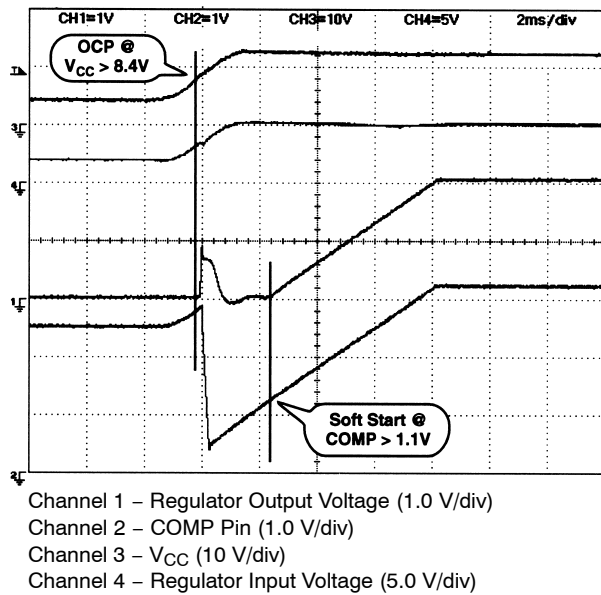

Figure 13. Startup with COMP Pre-Charge to 2.0 V
If the voltage across the Current Sense resistor generates a voltage difference between the V_{FB} and V_{OUT} pins that exceeds the OVC Comparator Offset Voltage (86 mV typical), the Fault latch is set. This causes the COMP pin to be quickly discharged, turning off GATE(H) and the upper NFET since the voltage on the COMP pin is now less than the 1.1 V PWM comparator offset. The Fault latch is reset when the voltage on the COMP decreases below the discharge threshold voltage (0.25 V typical). The COMP capacitor will again begin to charge, and when it exceeds the 1.1 V PWM comparator offset, the regulator output will Soft Start normally (see Figure 13).